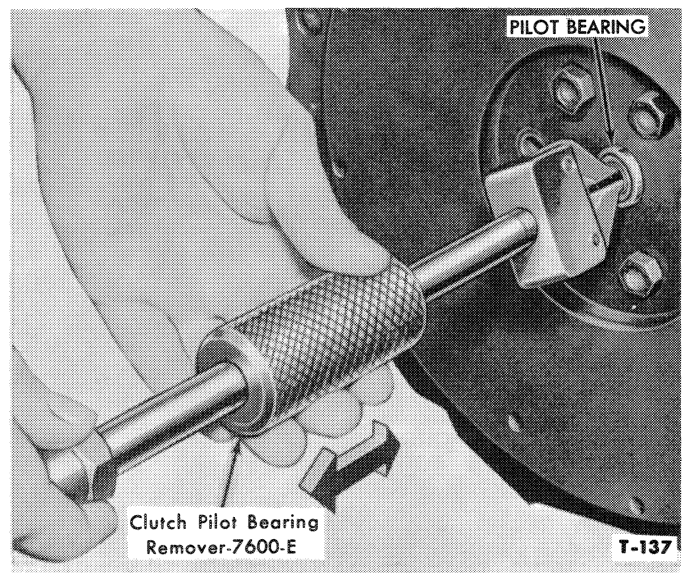

Figure 61—Removing Clutch Pilot Bearing
1. Drive the bearing out of the flywheel with Clutch Pilot Bearing Replacer 7600-C. The bearing can be removed with bearing remover 7600-E if the flywheel is installed, see Figure 61.